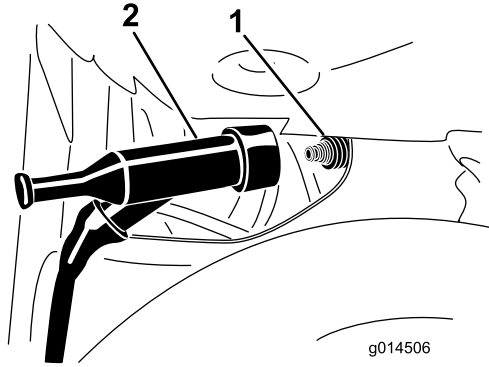

Figure 14
- Pull the wire off of the spark plug (Figure 14).